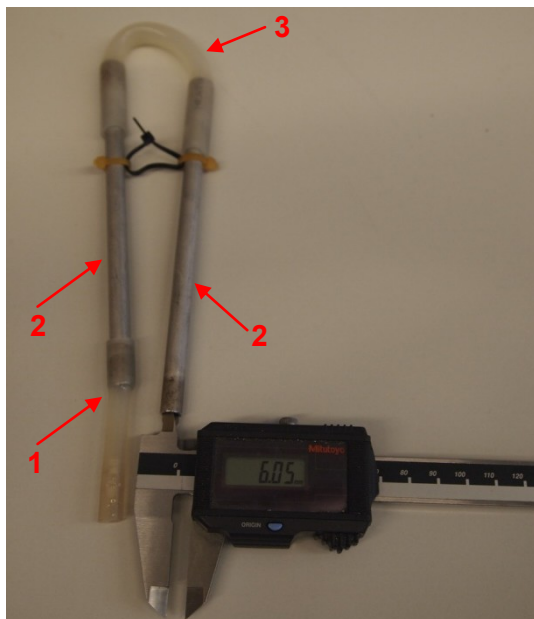

Figure 2
Link the silicone tubes (1), stainless steel tubes (2), and silicone tube (3). Fasten the stainless steel tubes by three cable ties to form a U shape as shown in Figures 2 and 3.